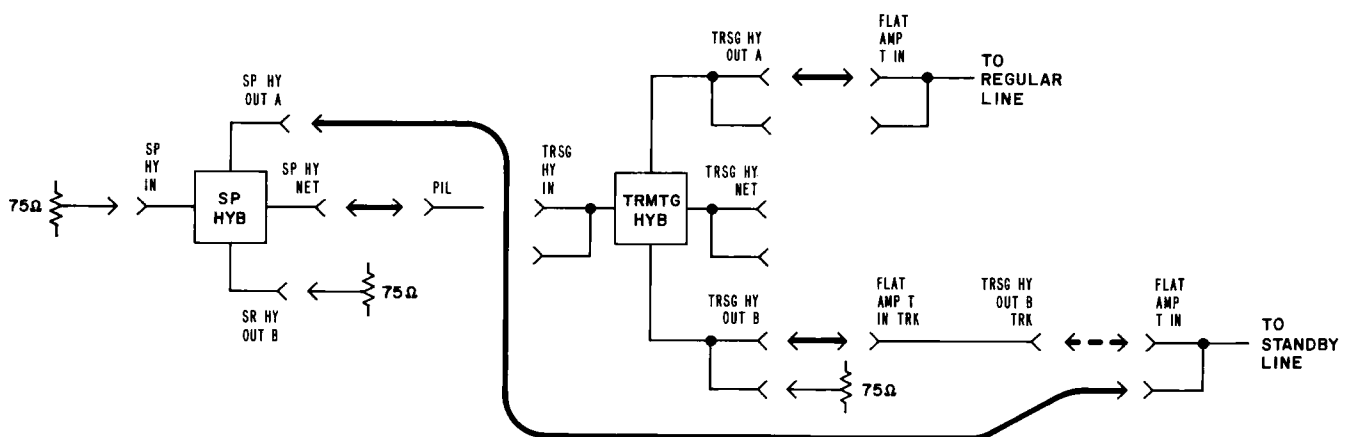

Fig. 1—Standby Lines—2-Line Switching—Transmitting End
Note: To avoid activation of auxiliary pilot and switching circuit alarms, establish connections and terminations in the order set forth in the following steps (Fig. 1 and 2).
- 2 At the transmitting end of the same switching section, in the standby line bay or the nearest bay equipped with a spare hybrid coil, patch between the PIL jack and the SP HY NET jack using a 372A patch plug (Fig. 1 and 2).
- 5 **For 2-Line Switching:** Terminate the multiple of the TRSG HY OUT B jack with a 368A plug (Fig. 1) and perform Step 6 immediately.